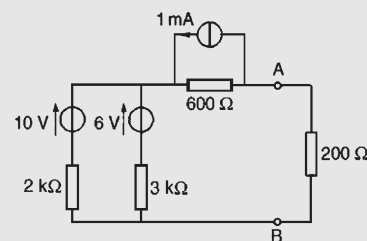
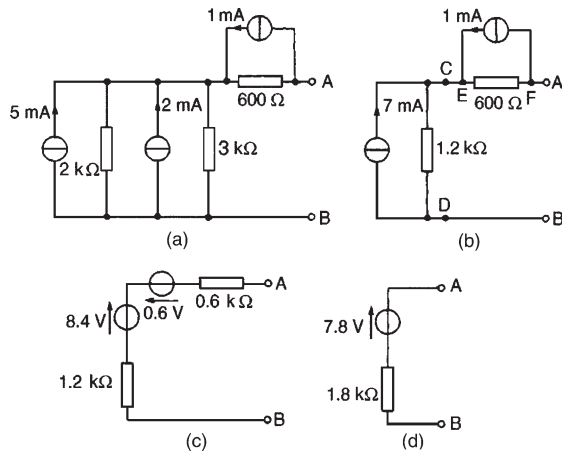

Figure 13.74
Figure 13.75
**Problem 21.** Determine by successive conversions between Thévenin and Norton equivalent networks a Thévenin equivalent circuit for terminals  $AB$  of Fig. 13.74. Hence determine the current flowing in the  $200\Omega$  resistance.
For the branch containing the 10 V source, converting to a Norton equivalent network gives  $I_{SC} = 10/2000 = 5 \text{ mA}$  and  $r_1 = 2 \text{ k}\Omega$ . For the branch containing the 6 V source, converting to a Norton equivalent network gives  $I_{SC} = 6/3000 = 2 \text{ mA}$  and  $r_2 = 3 \text{ k}\Omega$ . Thus the network of Fig. 13.74 converts to Fig. 13.75(a). Combining the 5 mA and 2 mA current sources gives the equivalent network of Fig. 13.75(b), where the short-circuit current for the original two branches considered is 7 mA and the resistance is  $(2 \times 3)/(2 + 3) = 1.2 \text{ k}\Omega$ . Both of the Norton equivalent networks shown in Fig. 13.75(b) may be converted to Thévenin equivalent circuits. The open-circuit voltage across CD is  $(7 \times 10^{-3})(1.2 \times 10^3) = 8.4 \text{ V}$  and the resistance 'looking-in' at CD is  $1.2 \text{ k}\Omega$ . The open-circuit voltage across EF is  $(1 \times 10^{-3})(600) = 0.6 \text{ V}$  and the resistance 'looking-in' at EF is  $0.6 \text{ k}\Omega$ . Thus Fig. 13.75(b) converts to Fig. 13.75(c). Combining the two Thévenin circuits gives  $E = 8.4 - 0.6 = 7.8 \text{ V}$  and the resistance  $r = (1.2 + 0.6) \text{ k}\Omega = 1.8 \text{ k}\Omega$ . Thus the Thévenin equivalent circuit for terminals AB of Fig. 13.74 is as shown in Fig. 13.75(d).